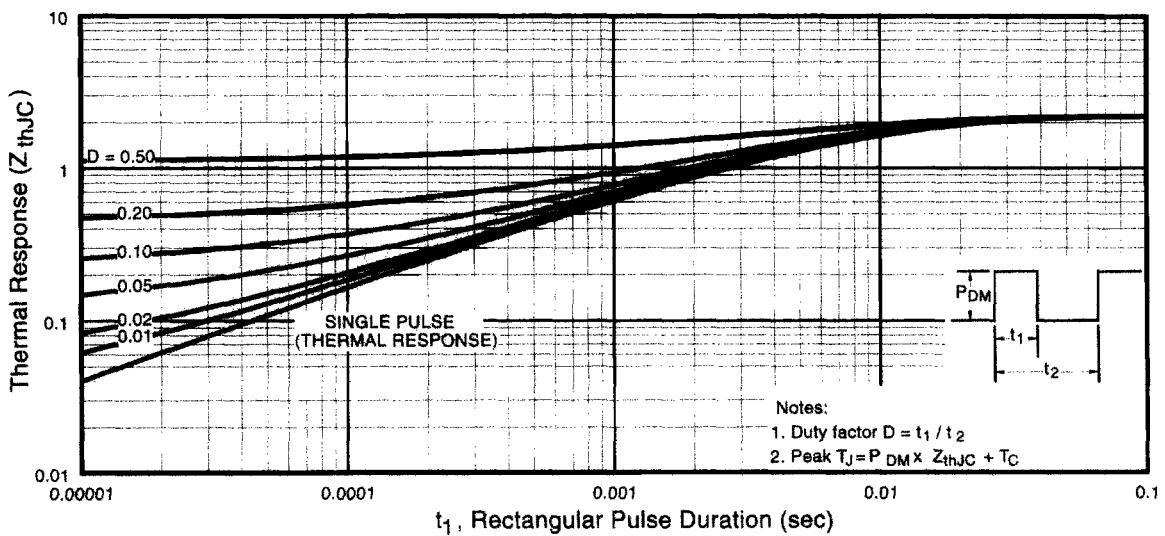

Fig 11. Maximum Effective Transient Thermal Impedance, Junction-to-Case
① Repetitive rating; pulse width limited by max. junction temperature. (see figure 11)